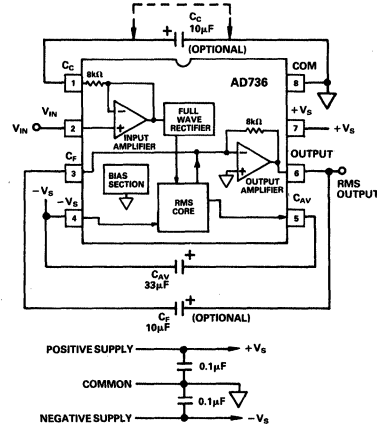

Figure 16. AD736 True RMS Circuit
- 1Accuracy is specified with the AD736 connected as shown in Figure 16 with capacitor  $C_C$ .
As shown by Figure 16, the AD736 has five functional subsections: